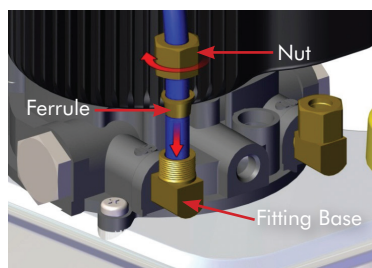
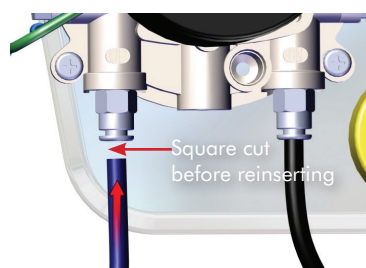

Figure 1
Figure 2
2. Push the blue tubing into the compression fitting labeled UP (**FIG. 1**) or the Push-Fit fitting (**FIG. 2**), and the black tubing into fitting labeled DN. While holding the blue tubing fully inserted into its respective compression fitting base, begin threading the compression fitting nut onto the base (**FIG. 1**) Repeat these steps for the black tubing.
IMPORTANT: The tubing needs to pass through the ferrule far enough to expose approximately 1/2" of tubing (**FIG. 1**) and the Push-Fit fitting needs 1/2" of tubing inserted into it with end cut square (**FIG. 2**)